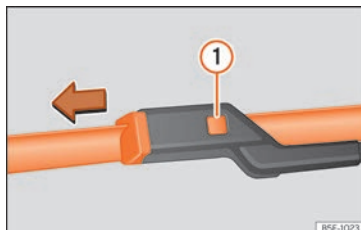

Fig. 83 Changing the windscreen wiper blade.
- Press the securing tab down ① »» **Fig. 83.**